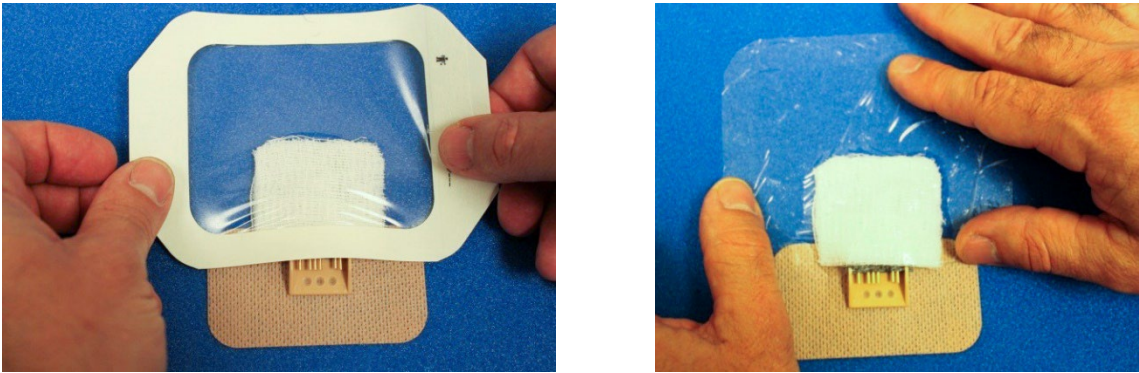

Figure 22.
- Place a transparent dressing over the gauze. (Tegaderm and Op-Site are examples of transparent dressings) Do NOT cover the gold pins with the transparent dressing. (Figure 22).